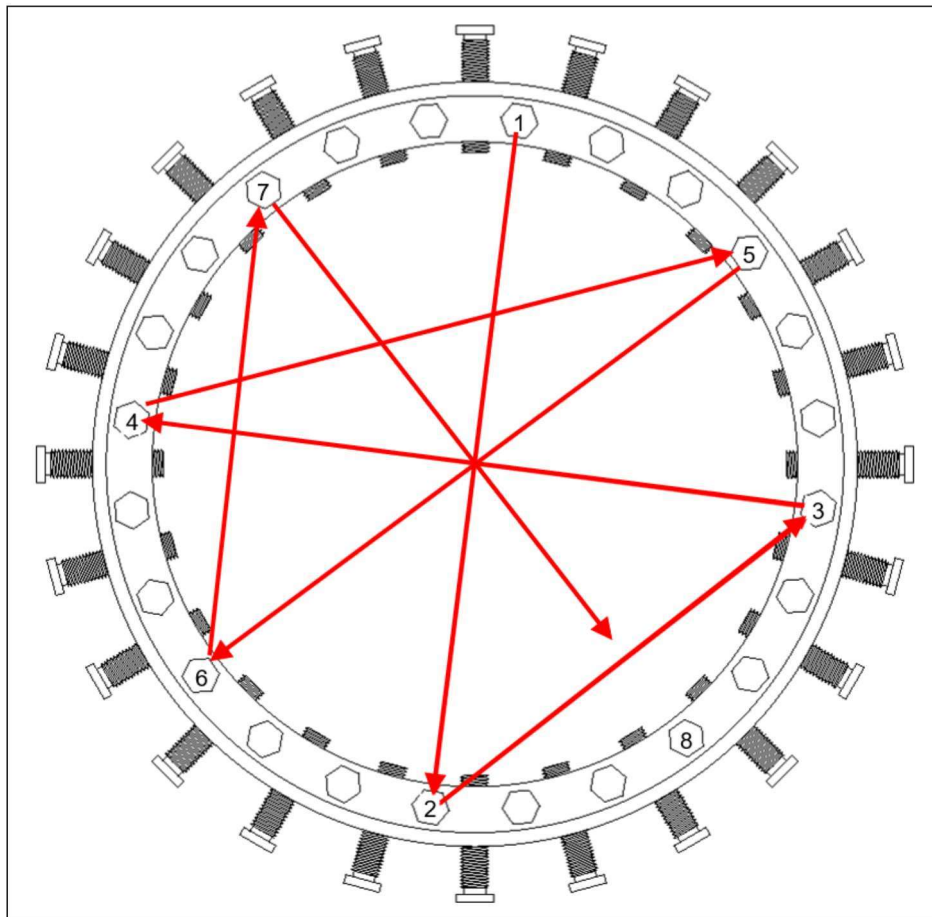
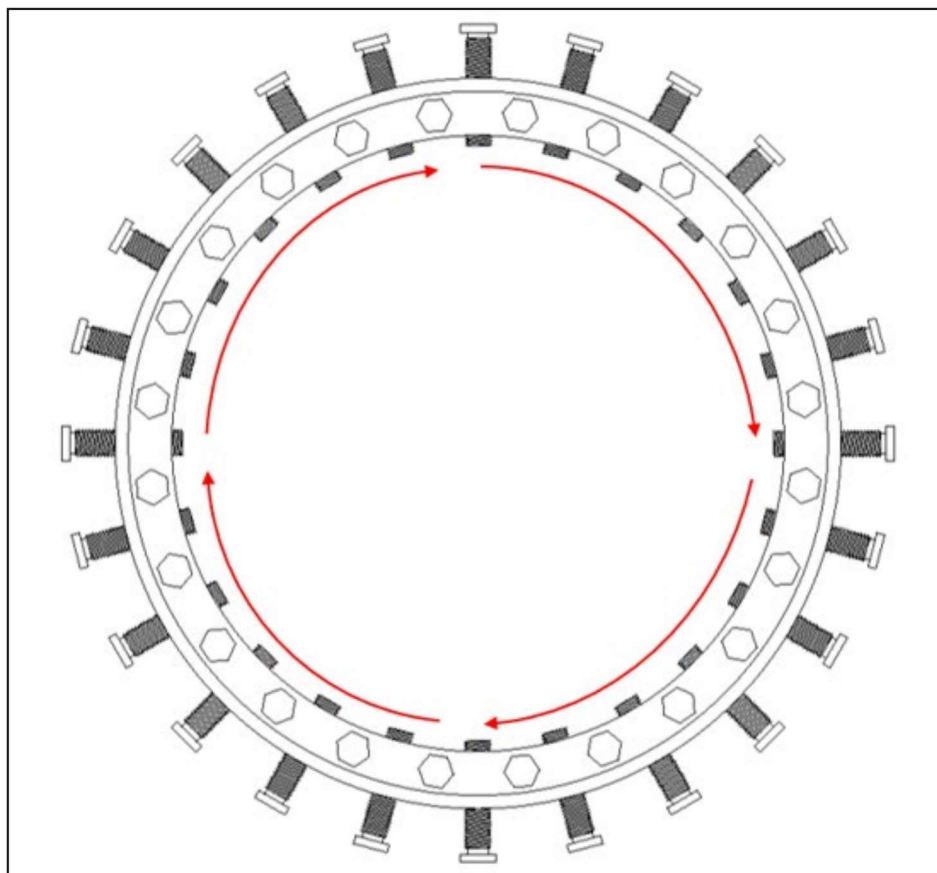

Figure 7
Figure 8
3. Torque the thrust screws one at a time in a repeated crisscrossed star sequence that matches Figure 7. The first time through the sequence, tighten the screws to 25% of the torque. The second time through, tighten to 50% of the torque. The third time through, tighten the screws to 100% of the torque. Then, follow a circular tightening sequence, that matches Figure 8, at 100% torque, until the thrust screws are unable to continue spinning.